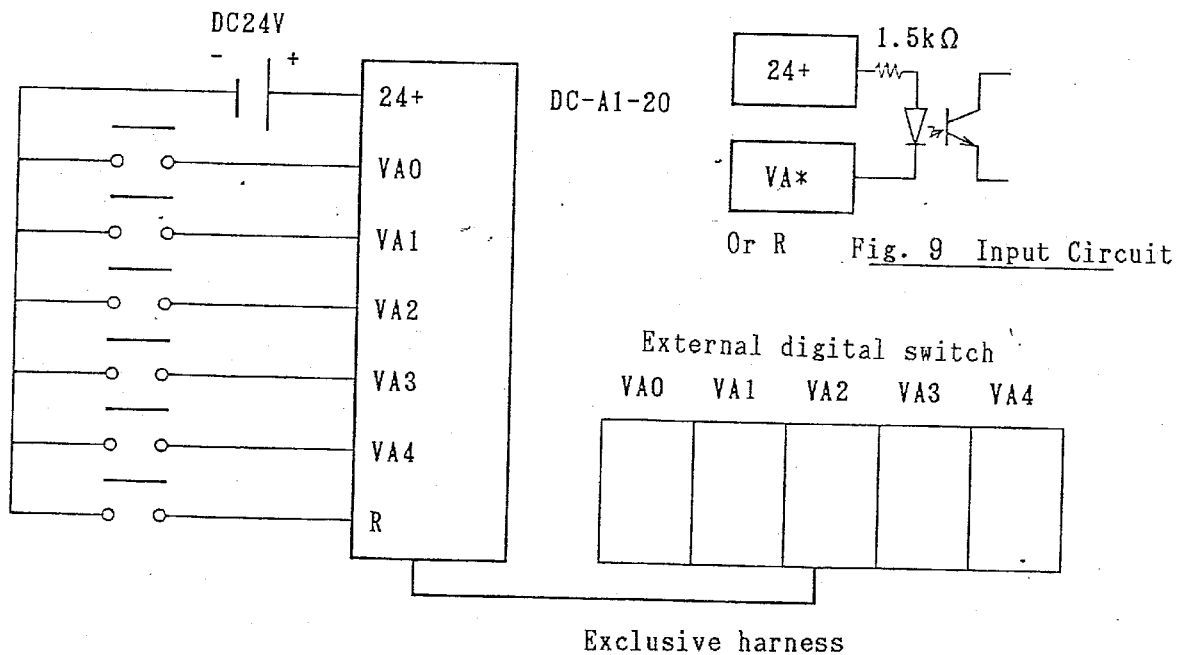

Fig. 8
The contact inputs VA0 through VA4 and R (reset) operate by the contact "a" of 24V DC. The connection is done on the terminal board on the front panel as shown in Fig. 8 (left). (Fig.1-①)